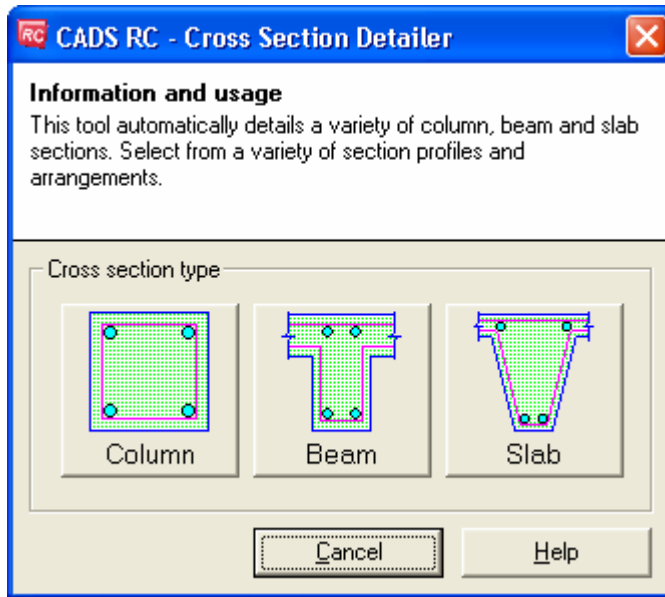

Figure 12.2.5:1 Cross Section Detailer dialog
10. Select the Column Icon from the Cross Section Detailer dialog as shown in figure 12.2.5:1 below.